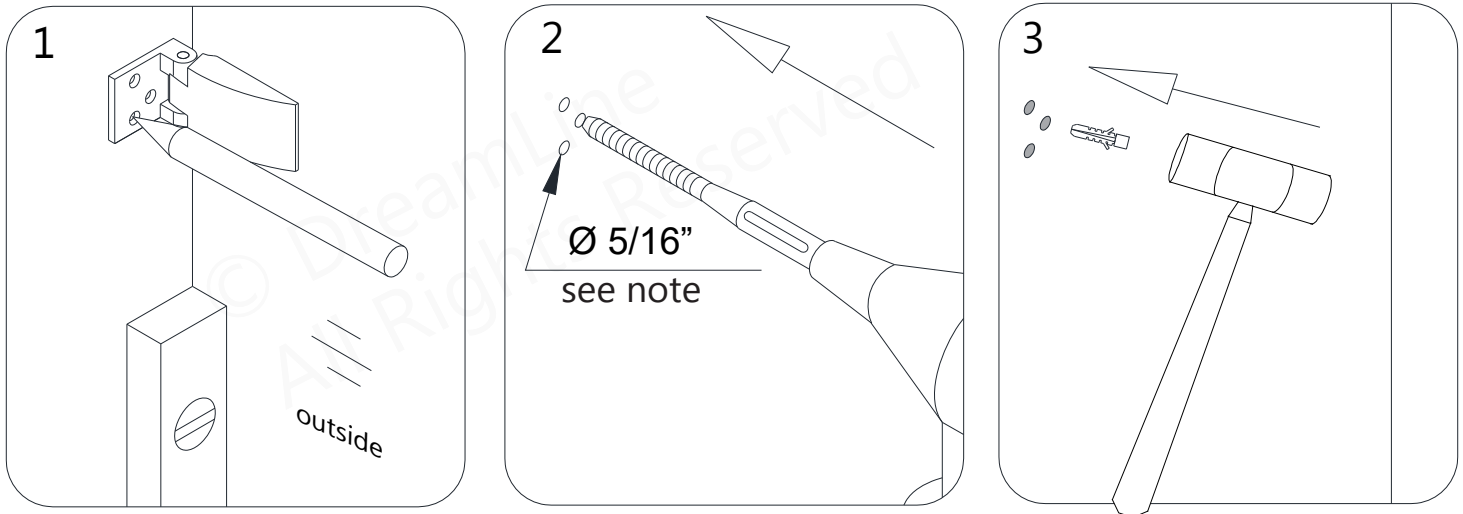

Fig 3
3. Once the door is leveled and plumb, mark the holes for drilling on the wall. Set the **Door Glass (#01)** aside and drill the holes using a **Ø5/16"** drill bit. Insert the **Wall anchors (#03)** (**Fig 3**)